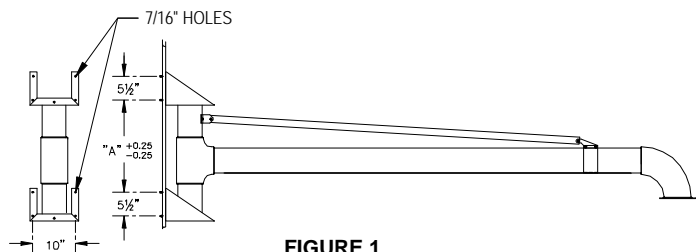

FIGURE 1
2. Using a forklift (or similar means) to position the Boom Arm up to the wall or vertical structure intended for installation, locate and drill 7/16" dia. mounting holes through the structure (Figure 1).